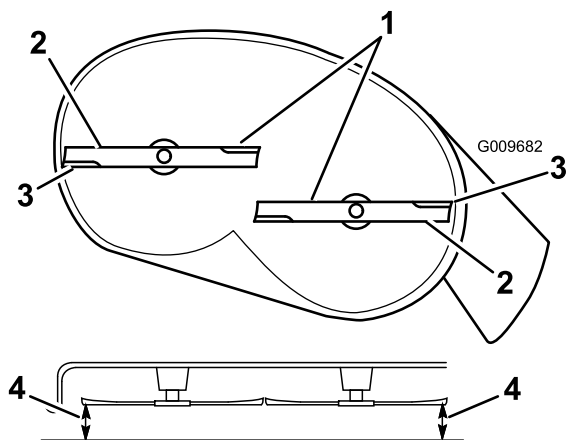

Figure 51
4. Carefully rotate the blades so that they are all side to side (Figure 51).
5. Measure between the outside cutting edges and the flat surface (Figure 51). If both measurements are not within 5 mm (3/16 inch), an adjustment is required; continue with this procedure.